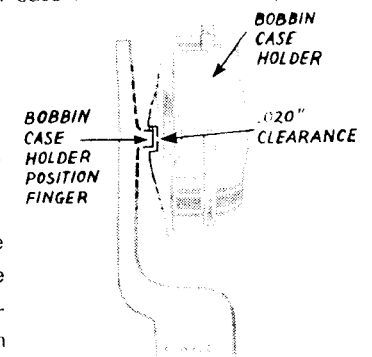

Fig. 31. Showing Thread Clearance Between Bobbin Case Position Finger and Bobbin Case Holder
5. Check position of bobbin case position finger Fig. 31. The clearance between position finger and bobbin case holder should be just sufficient to allow thickness of thread to pass through easily. Normal setting is for approximately .020 inch clearance, as shown in Fig. 31. The finger should also be level with top of bobbin case holder.